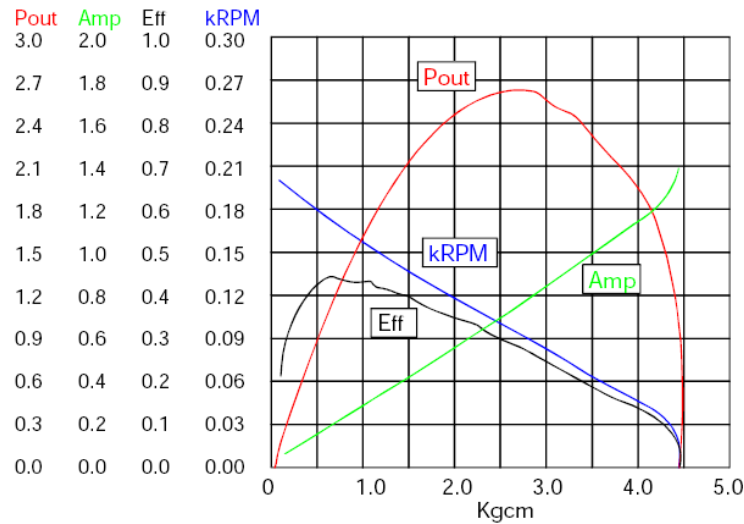

Figure 6.1: Motor Characterization Curves
1. This lab will use Lynxmotion GHM-01 gear head DC motors. The characterization data of the gearbox output is specified with the curves in Figure 6.1. The figures include the gear box. The gear reduction is 30:1. From the curves below, estimate: